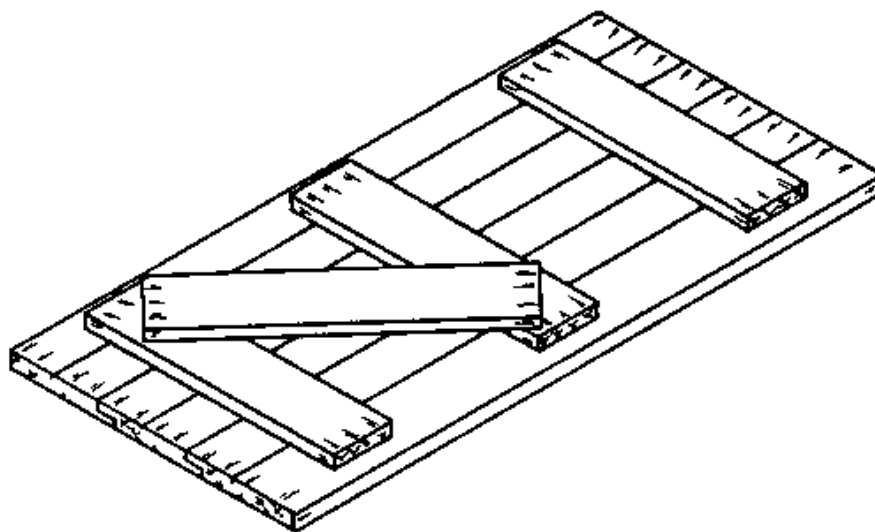

Fig. 1 (m)
- m. Place the braces on top of the ledges (Fig. 1).